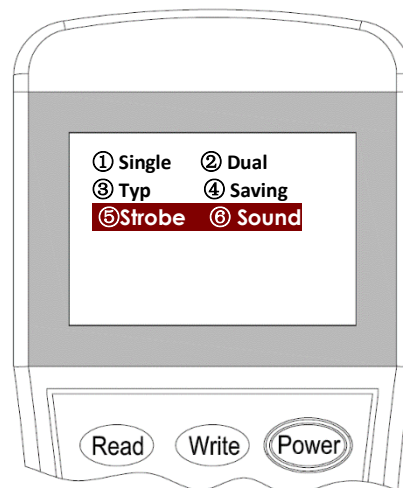

Figure 14
3. Input the “**5**” for **Strobe** type or “**6**” for **Sounder** type, then press “**Write**” to change the setting into the desire mode (Figure 14).